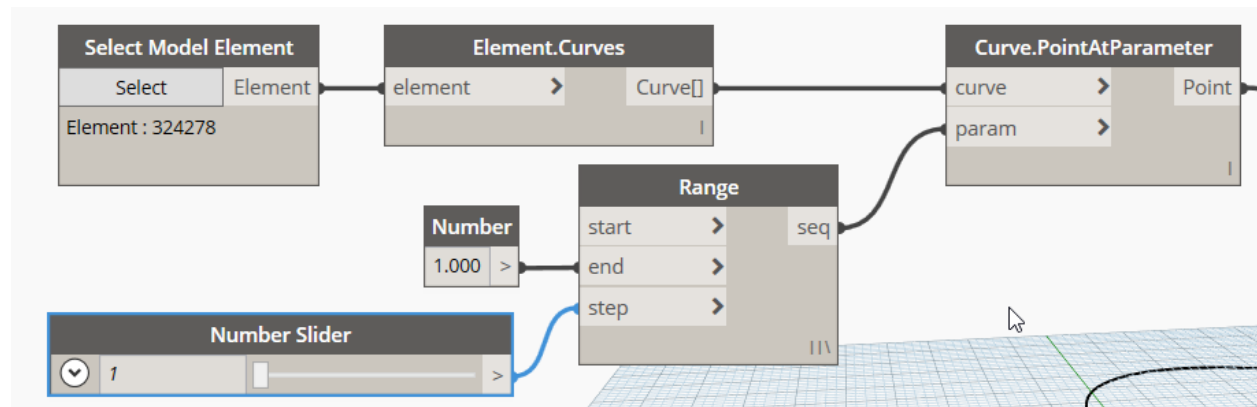

Figure 34
12. Rewire the graph to incorporate the **Range** node as shown in Figure 34. Be sure to change the value of the **Number** node to to: **1**.